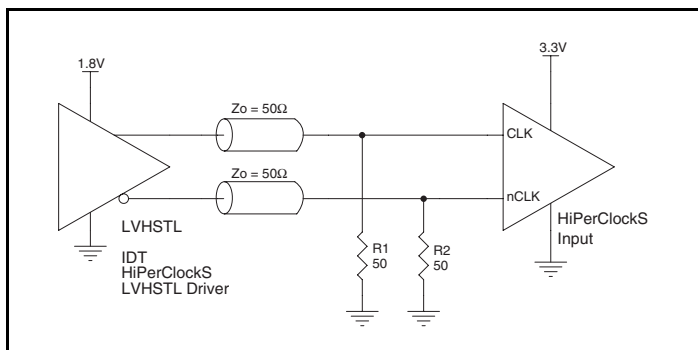

**Figure 2. Single-Ended Signal Driving Differential Input**
*Figure 2* shows how the differential input can be wired to accept single ended levels. The reference voltage  $V_{REF} = V_{CC}/2$  is generated by the bias resistors  $R1$ ,  $R2$  and  $C1$ . This bias circuit should be located as close as possible to the input pin. The ratio of  $R1$  and  $R2$  might need to be adjusted to position the  $V_{REF}$  in the center of the input voltage swing. For example, if the input clock swing is only  $2.5\text{V}$  and  $V_{CC} = 3.3\text{V}$ ,  $V_{REF}$  should be  $1.25\text{V}$  and  $R2/R1 = 0.609$ .